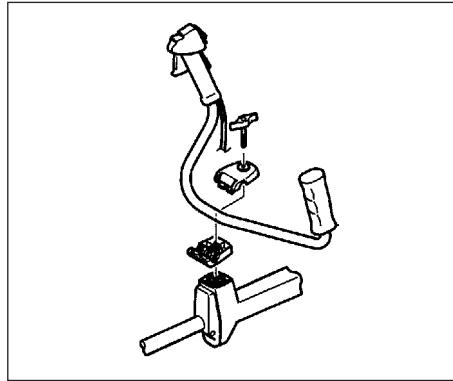

Fig.1-3C
MERK ang. CG40EYA (TP) (Fig. 1-3C, 3D)